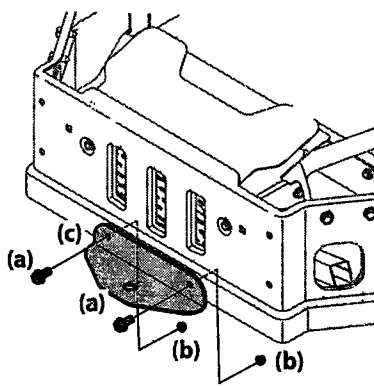

Figure 2-11
2. Install the hitch bracket as shown in Figure 2-11 and secure with the hex flange screws and flange lock nuts removed in step 1.